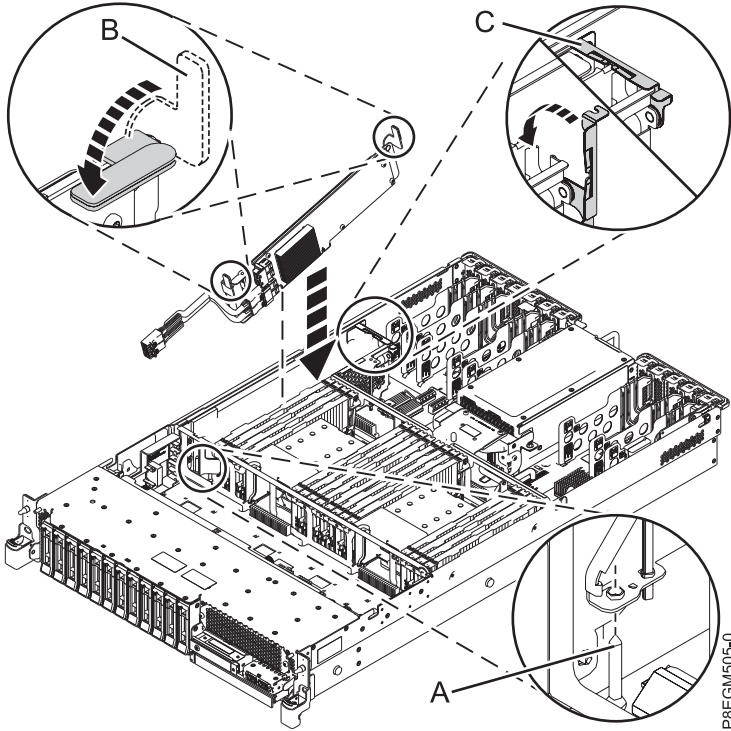

Figure 5. Installing the PCIe3 x8 SAS RAID internal adapter 6 Gb in slot P1-C15
17. Complete the installation of the SAS RAID adapter by fully seating it. Ensure that the adapter is installed on locating pin (A). Press the top-center edge of the card down to firmly seat it into the system backplane connector. See Figure 5 on page 6.
18. Push the blue handles (B) in the direction that is shown. See Figure 5 on page 6.
19. Push the cable retention bracket (C) in the direction that is shown. See Figure 5 on page 6.